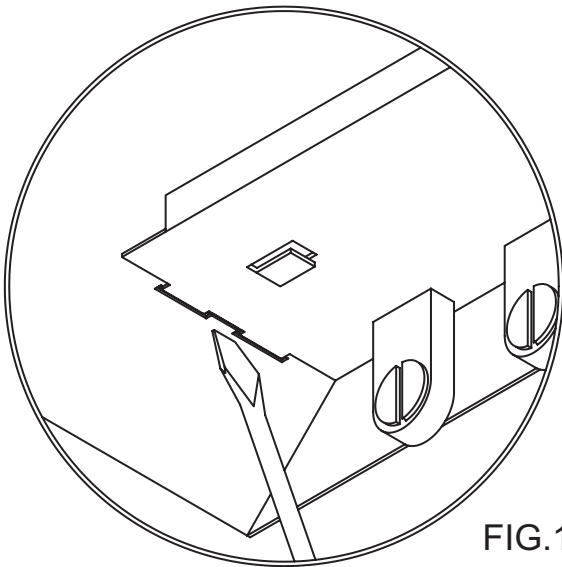

FIG.1
USE A FLAT BLADE SCREWDRIVER TO GENTLY DISENGAGE TAB LOCKING SOCKET PLATE INTO PLACE (SEE FIGURE 1.) WHILE TAB IS DISENGAGED, FIRMLY PULL SOCKET PLATE UP-WARD FROM SLOT (A). TAKE CARE NOT TO PULL TO FAR AS OTHER SIDE MAY BECOME DISTORTED AND DIFFICULT TO REINSTALL. REPEAT FOR OTHER SIDE OF SOCKET PLATE.